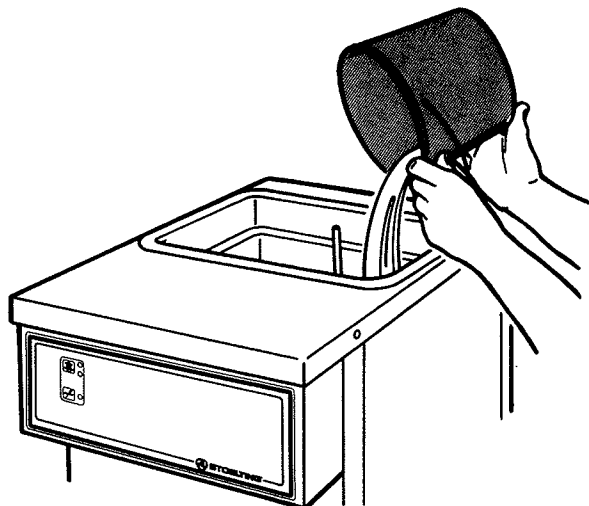

Figure 21. Filling Hopper
- D. Close the spigot and fill the hoppers with 2 gallons (7.5 liters) of cold tap water (Fig. 21).